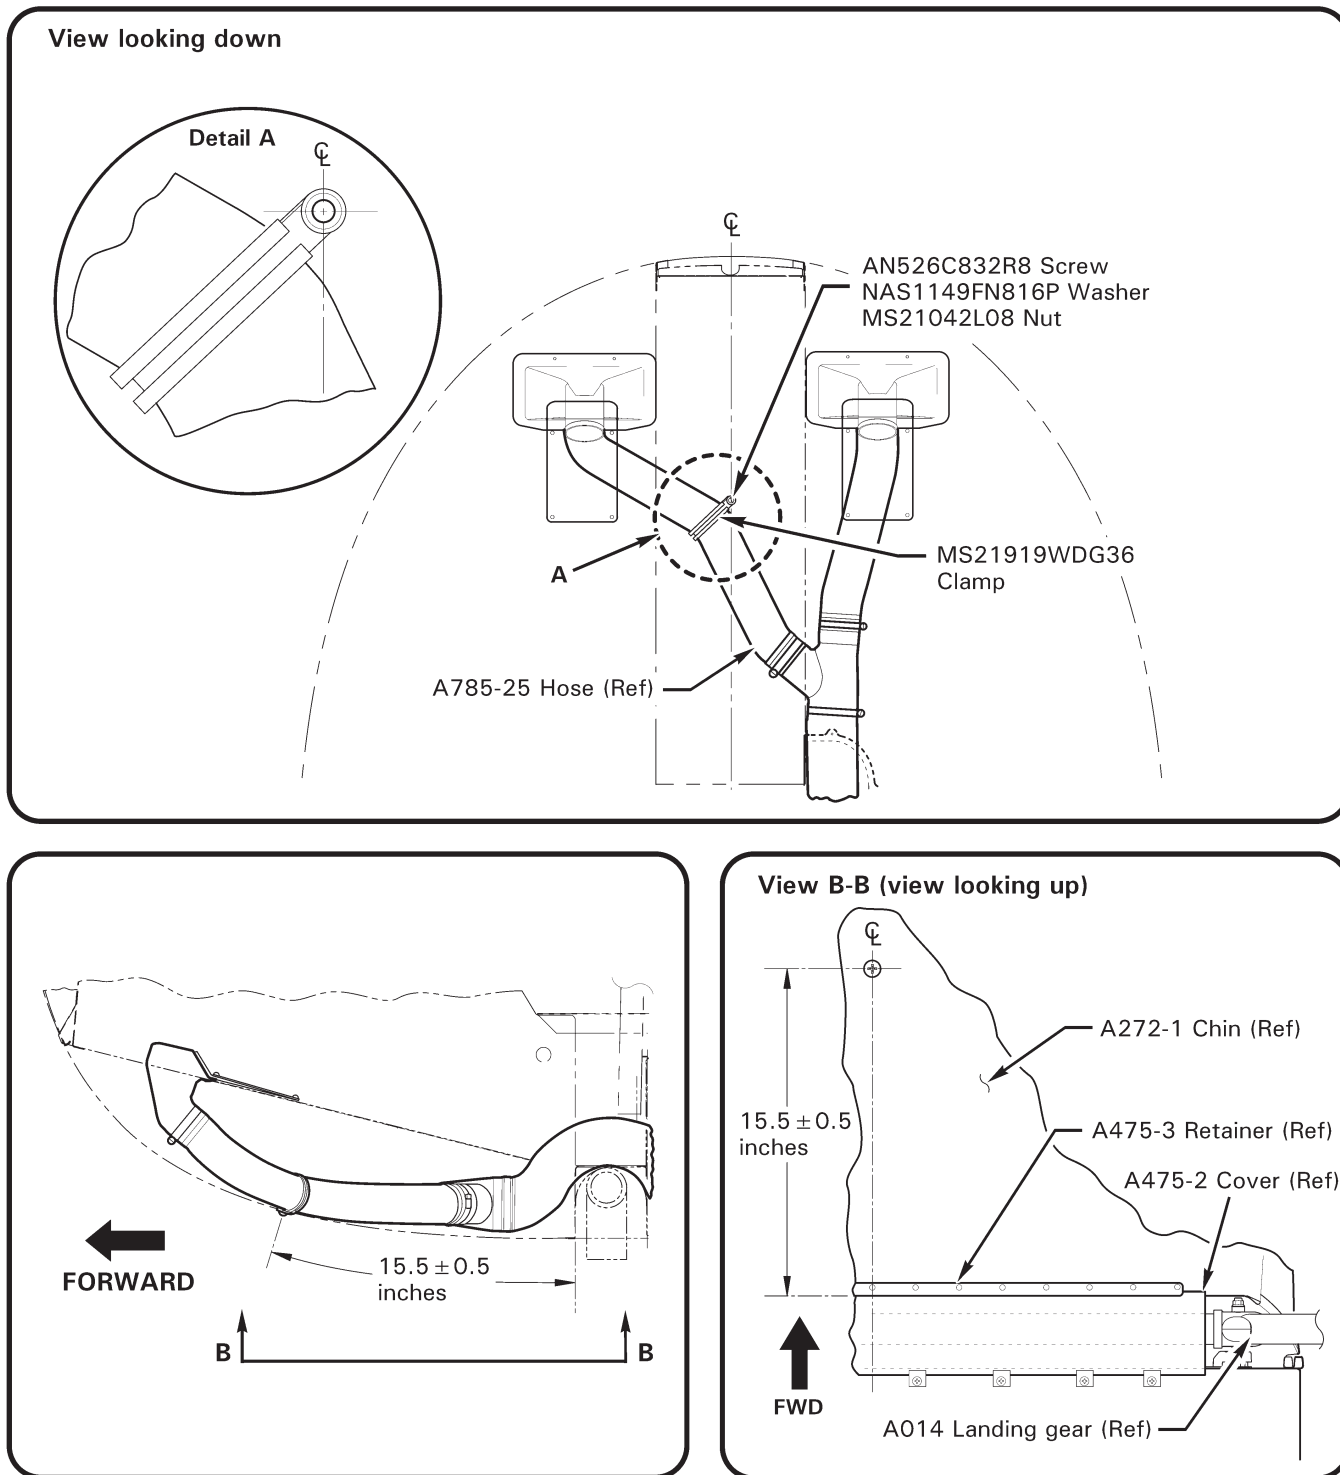

FIGURE 4
17. Refer to Figure 4. Layout and mark position on belly along helicopter centerline at 15.0 – 16.0 inches forward from aft edge of A475-3 retainer. Visually check for clearance in the belly at the position to be drilled. Drill 0.170-inch (#18 drill size) diameter hole using drill bit fitted with a drill stop. Clean up debris inside chin.
18. Position MS21919WDG36 clamp on A785-25 hose as shown in Figure 4. Secure clamp using (1) AN526C832R8 screw (head on belly-side), (1) NAS1149FN816P washer, and (1) MS21042L08 nut. Visually verify clearance of hose from any wire bundle and tail rotor controls.